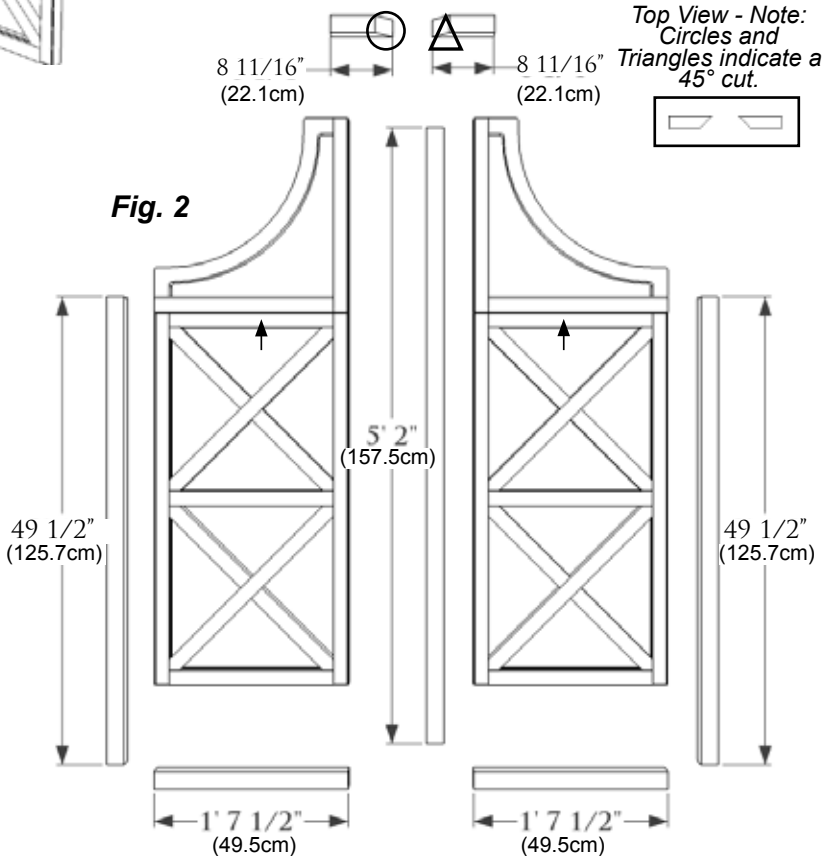

Fig. 2
2. Secure Panels with 2 1/4" screws provided in pre-drilled holes as indicated by arrows. (Fig. 2)
4. Cut Posts and Rails to size indicated. (Fig. 2) Circles and Triangles indicate a 45° cut. (Use a Mitre Box or Mitre Saw)